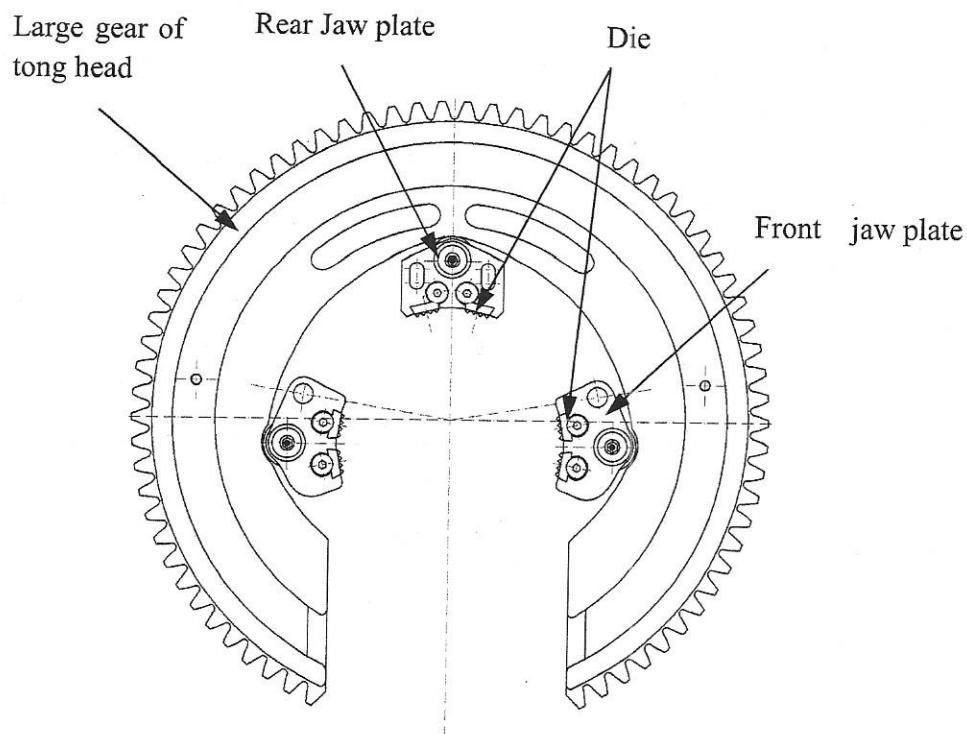
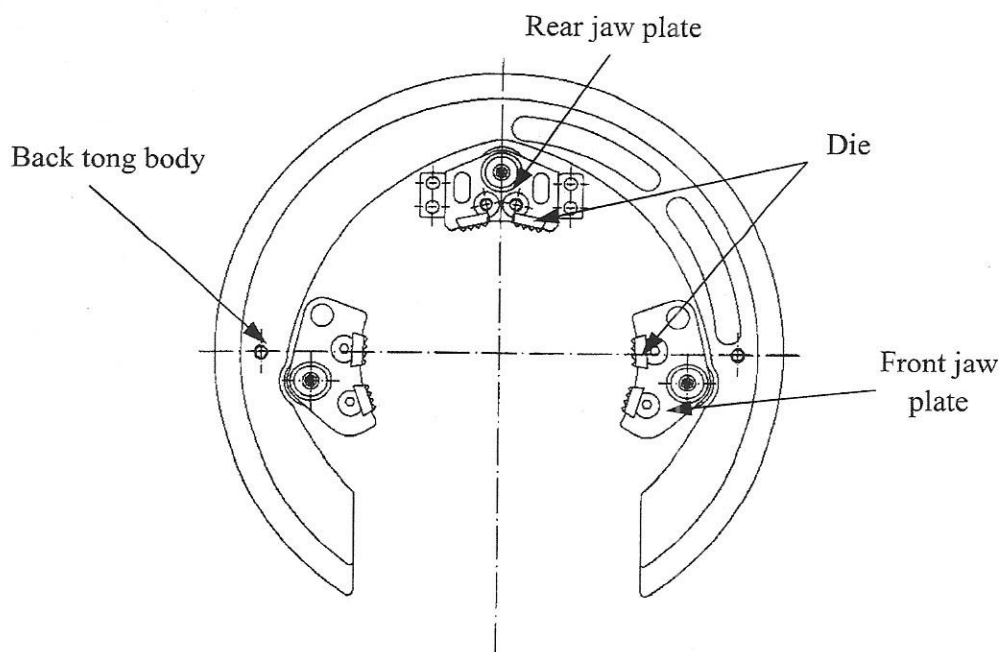

Fig. 2 Tong head and jaw plate of the master tong
Fig.3 Back tong body and jaw plate
1. Learn specifications of jaw plates and Die: jaw plates of master tong has 6 specifications and jaw plates of back tong has 7 specifications. Each specification has three jaw plates including 2 front jaw plates and one rear jaw plate (as shown in Figure 2 and Figure 3). The front two jaw plates are the same and may be installed on the left and right. During installing jaw plate, it is necessary to check whether Die is worn or clean. It is necessary to tighten fixation bolts of Die.